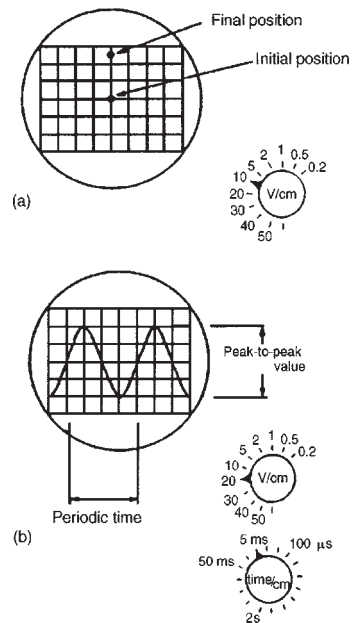

Figure 10.15
- With **direct voltage measurements**, only the Y amplifier ‘volts/cm’ switch on the oscilloscope is used. With no voltage applied to the Y plates the position of the spot trace on the screen is noted. When a direct voltage is applied to the Y plates the new position of the spot trace is an indication of the magnitude of the voltage. For example, in Fig. 10.15(a), with no voltage applied to the Y plates, the spot trace is in the centre of the screen (initial position) and then the spot trace moves 2.5 cm to the final position shown, on application of a d.c. voltage. With the ‘volts/cm’ switch on 10 volts/cm the magnitude of the direct voltage is 2.5 cm × 10 volts/cm, i.e. 25 volts.
- With **alternating voltage measurements**, let a sinusoidal waveform be displayed on an oscilloscope screen as shown in Fig. 10.15(b). If the time/cm switch is on, say, 5 ms/cm then the